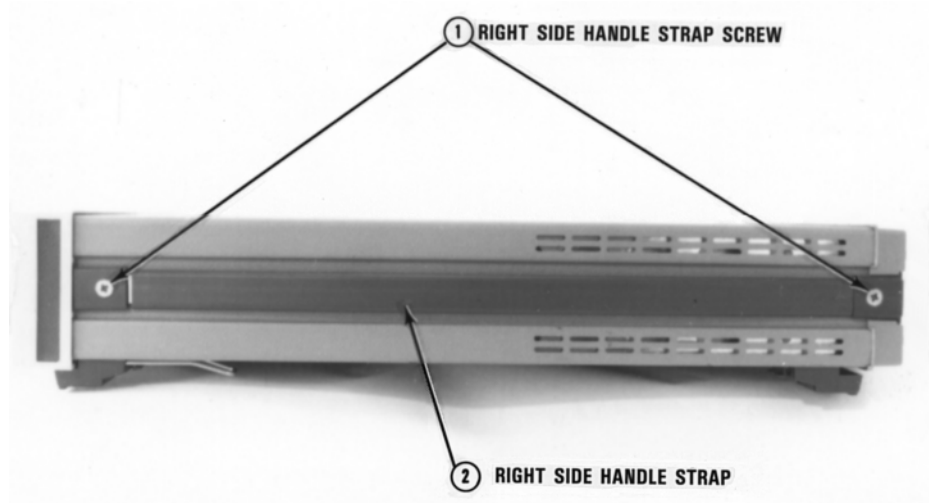

Figure C-1 3458A right side
- 3 Refer to Figure C-1. Turn the instrument so its right side faces you (as seen from the front).
- 9 Refer to Figure C-1. Turn the instrument so its right side faces you.